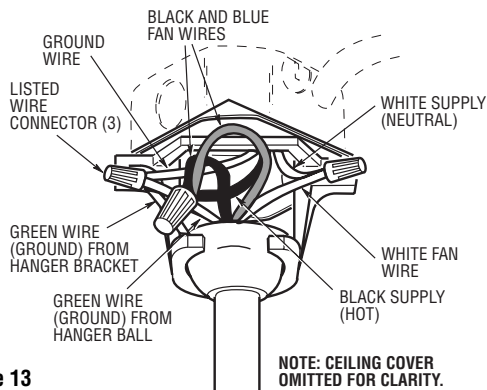

Figure 13
- 2. Securely connect the fan motor white wire to the supply white (neutral) wire using wire connector supplied (Figure 13). Securely connect the fan motor black wire and blue wire to the supply black (hot) wire using wire connector supplied (Figure 13). After connections have been made, turn leads upward and carefully push leads into the outlet box, with the white and green leads on one side of the outlet box and the black and blue leads on the other side of the outlet box.